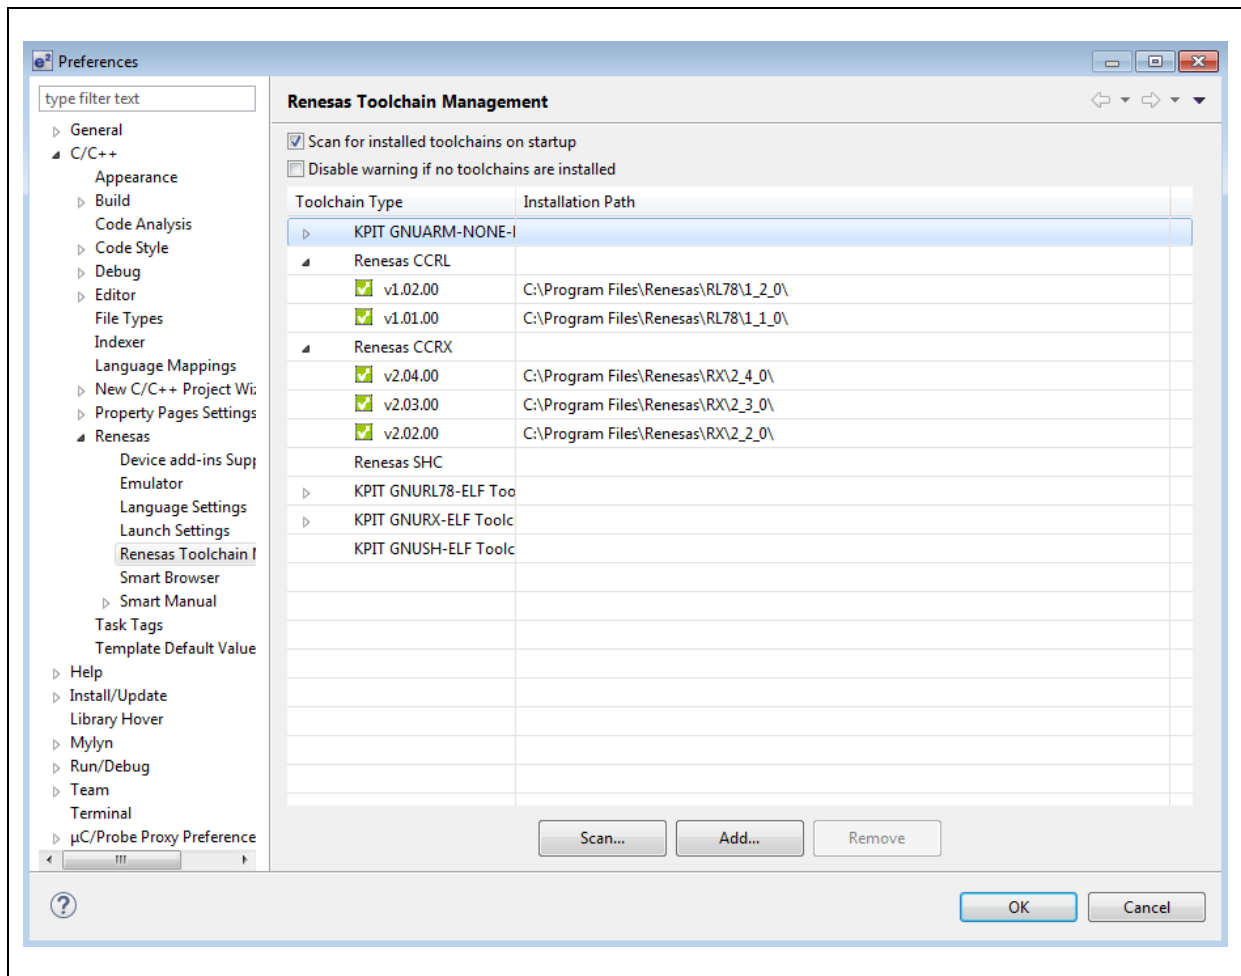

Figure 2-3 Toolchain Management
- (1) Click [C/C++ Build] → [Change Toolchain Version] to view or change toolchain version. You can choose toolchain among the versions listed in “Available Versions” drop down list, based on the configuration of Toolchain management view as mentioned at Figure 2-3.